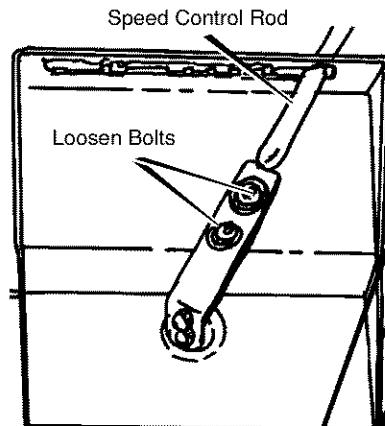

Figure 32
2. Loosen the **bolts** on the **speed control rod** (see Figure 32).
4. Tighten the **bolts** on the **speed control rod** (see Figure 32).